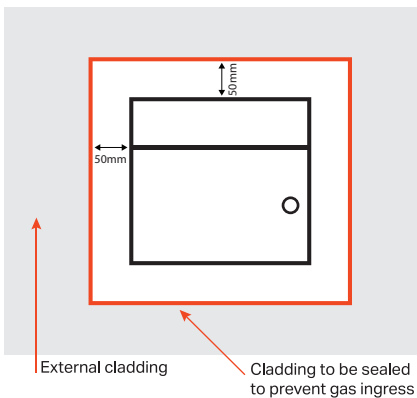

Figure 1: Meter box
- A minimum of 50mm around any external meter box (as shown in Figure 1).